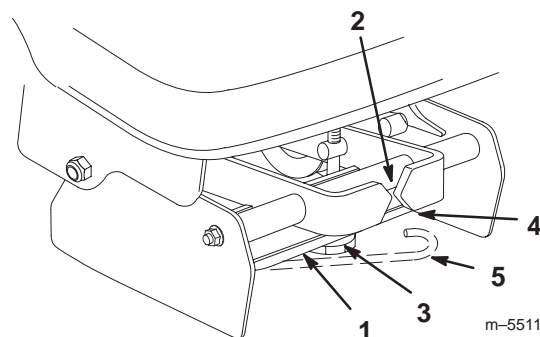

Figure 10
2. Release the belt tension release arm on the pulley box housing and swing it out toward you (Fig. 10).
6. Loop the other end of the belt over the drive pulley of the mower. Additional belt slack can be obtained (if needed) by turning the belt tension adjustment knob (Fig. 10).
- B. Check the tension indicators on front of the pulley box. The two arrow points on the indicators should line up (Fig. 10).
- C. If the tension indicators do not line up, release the belt tension, turn the adjustment knob and repeat steps A through C until the indicators line up (Fig. 10).
- D. Swing the tension release arm into the pulley box and seat it by moving it into the position shown in Figure 10.